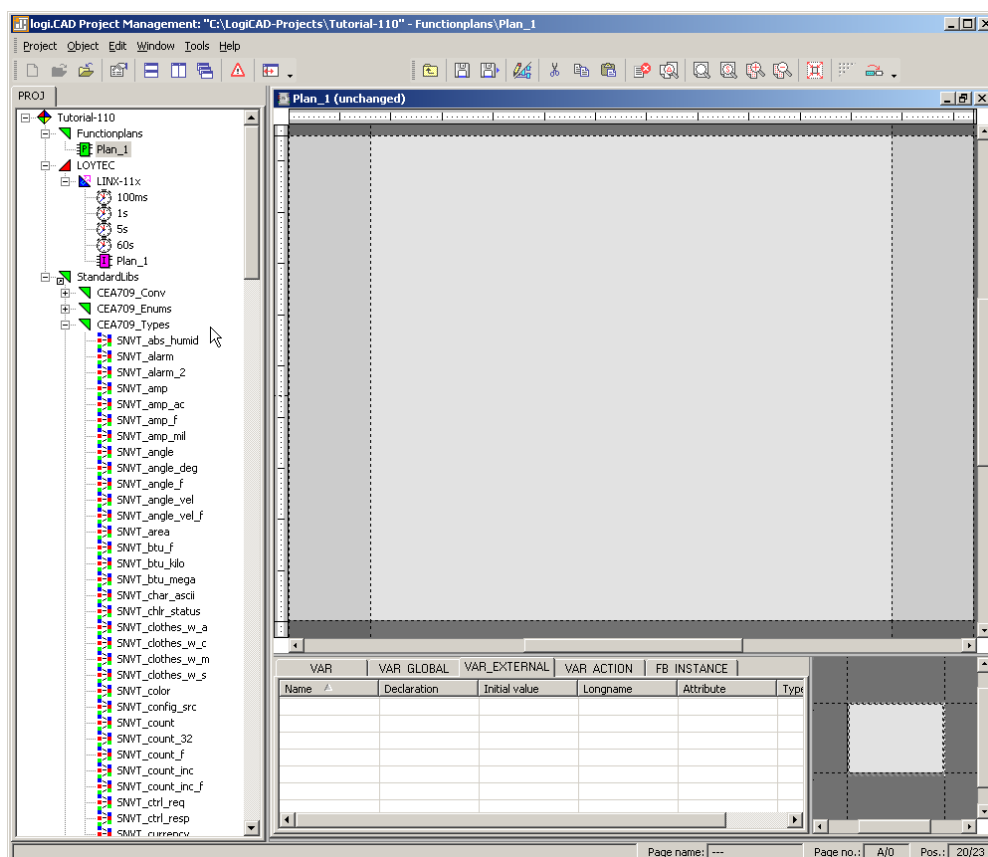

Figure 71: Edit Plan_1
7. As shown in Figure 71 below, expand the tree element **Functionplans** and double click **Plan_1** in order to start editing the plan.